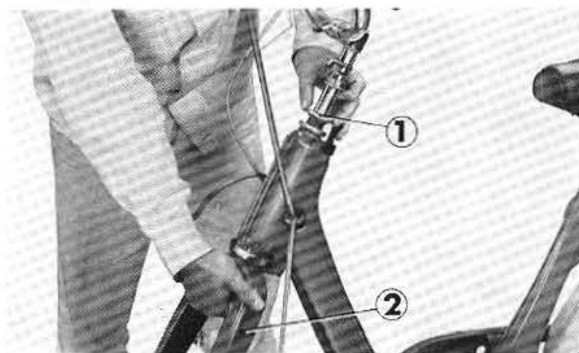

Fig. 4-14 ① Steering top cone race
② Front fork
1. Assemble 26 and 21 steel balls into the bottom and top cone race respectively with the use of grease. (Fig. 4-14)